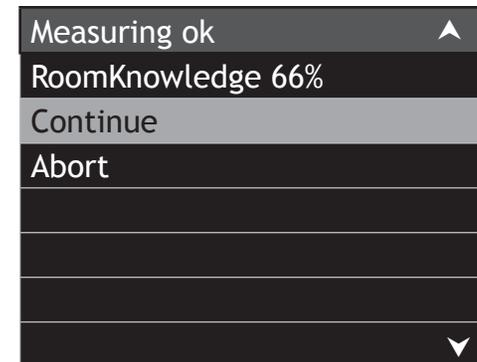
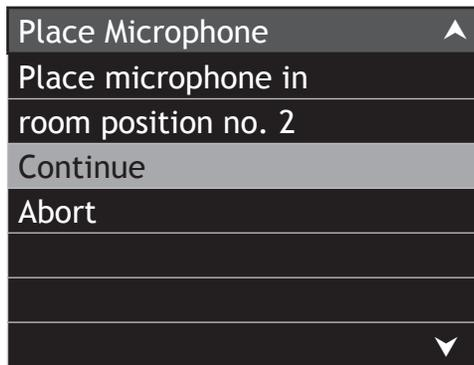

Figure 38
Figure 39
9. At the end of the “Measuring Room Position 1” figure 38 will appear. For the best sonic results, it is important to continue measuring additional room positions, until the RoomKnowledge Data is at least 90%. Relocate the microphone to a second room position and press SELECT to continue. Refer to figures 39 and 40 (on the next page). Depending on the room itself and the objects in the room, it might take many different room positions for the measurements to reach a RoomKnowledge score over 90%.